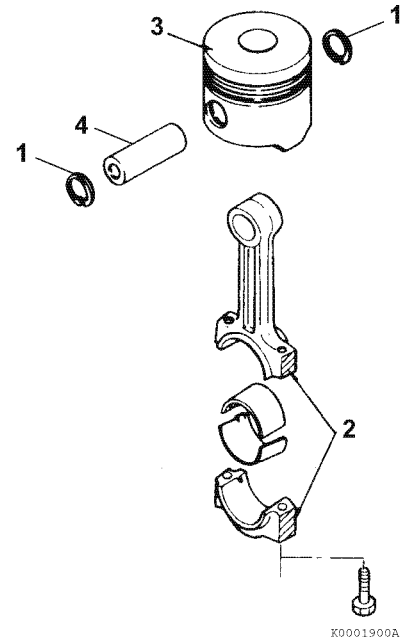

Figure 6-48
14. Remove the wrist pin circlips (1, **Figure 6-48**) from the piston.
15. Support the piston (3, **Figure 6-48**) and drive the wrist pin (4, **Figure 6-48**) from the piston. Use a soft-faced hammer and a suitable driving tool that has a smaller diameter than the inside diameter of the wrist pin bore. Remove the connecting rod (2, **Figure 6-48**) from the piston.